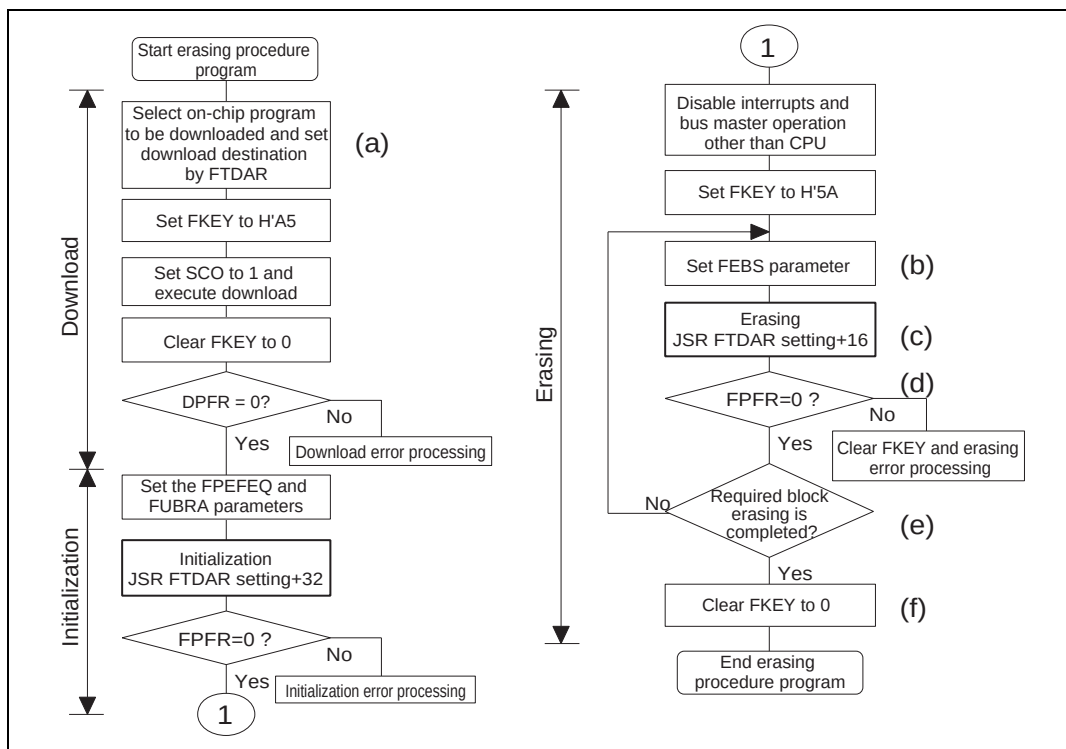

**Figure 17.71 Erasing Procedure**
**Erasing Procedure in User Program Mode:** The procedures for download, initialization, and erasing are shown in figure 17.71.